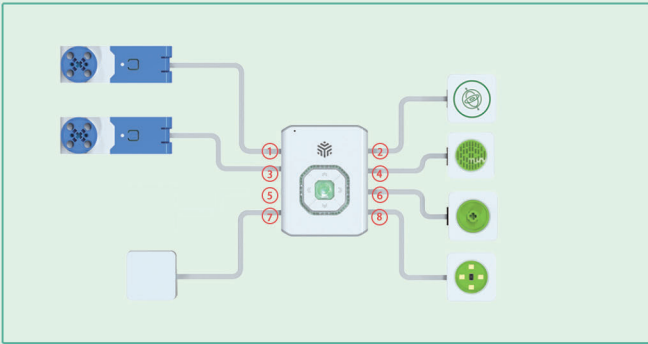

Figure 2
As shown in Figure 2, sensors are connected to ports ②, ④, ⑥, and ⑧ on the right side, and they can control the actuator modules connected to ports ①, ③, ⑤, and ⑦ on the left side. The control logic is that ② controls ①.